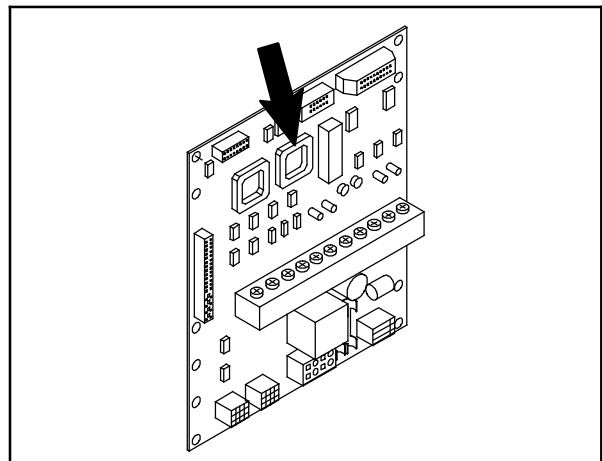
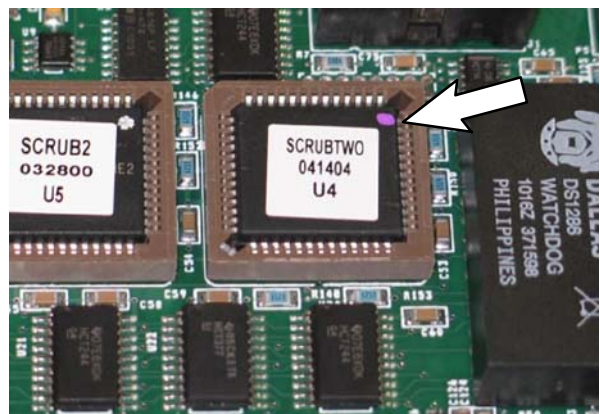

FIG. 9
FIG. 10
6. Use the chip removal tool (4) to carefully remove the memory flash card from the circuit board. Take care to not damage circuit board when removing the card. Refer to instructions included with chip removal tool for additional information. (Fig. 9 / Fig. 10)